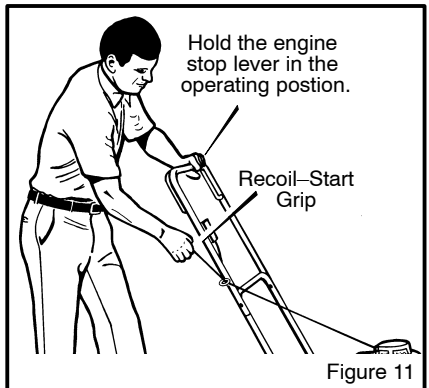

Figure 11
5. Stand behind the mower (Figure 11). Use one hand to hold the **engine stop lever** in the operating position as shown. Use the other hand to hold the **recoil-start grip**.